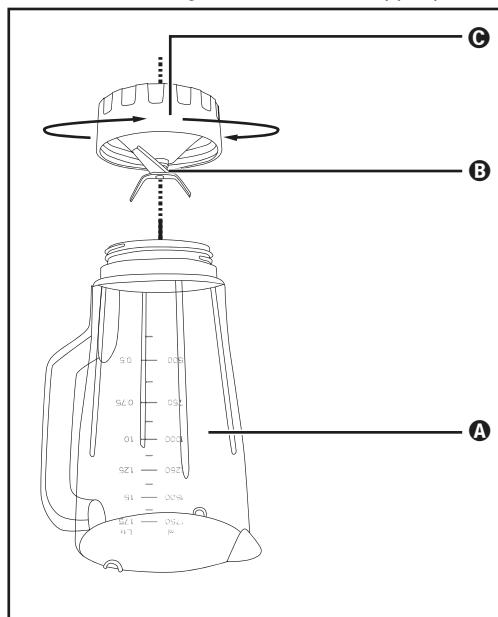

Fig. 3
- 2) Turn the appliance upside down and turn the lower plastic part **C** of the blender ③ anticlockwise so that it can be removed from the upper plastic part **A** of the blender ③ (see fig. 3).